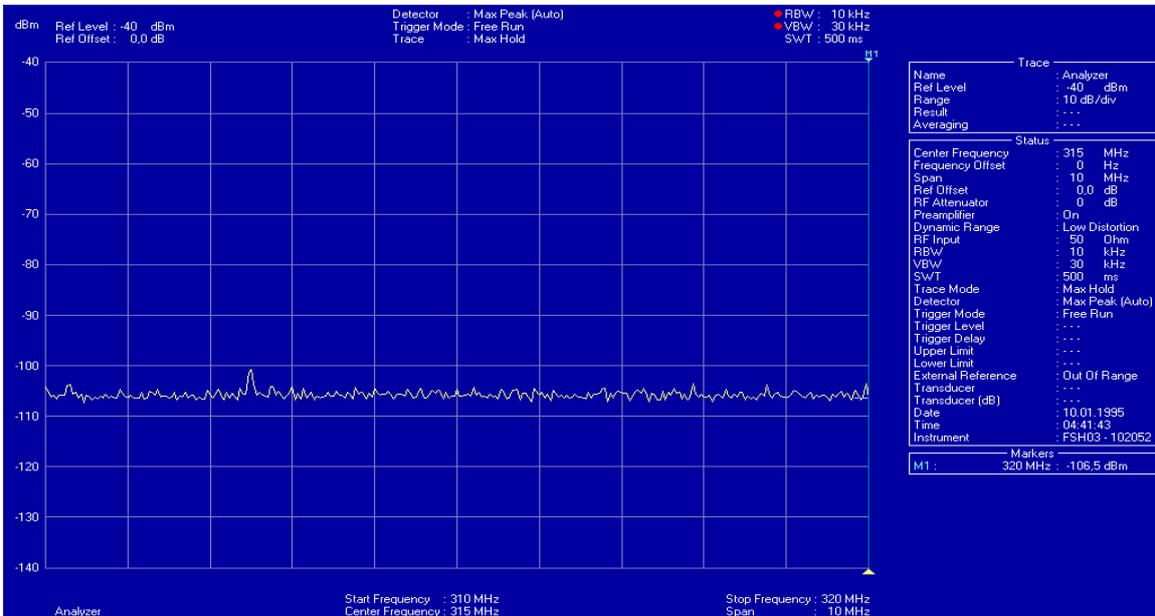
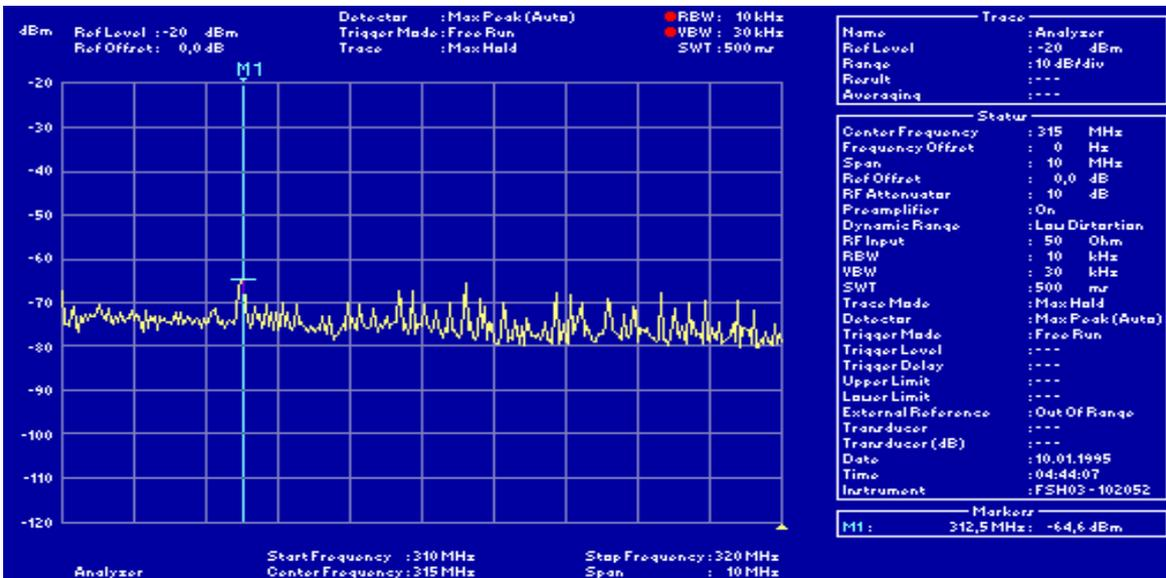

Fig. 1: Typical site survey without preamplifier
Fig. 2: Same with external preamplifier. Please note the higher floor level due to the additional external preamplifier (preamplifier gain: +37 dB)
- Analyze and Evaluation. In the following please see two (Fig. 1 and Fig. 2) typical "uncritical" screen shot examples for comparison: